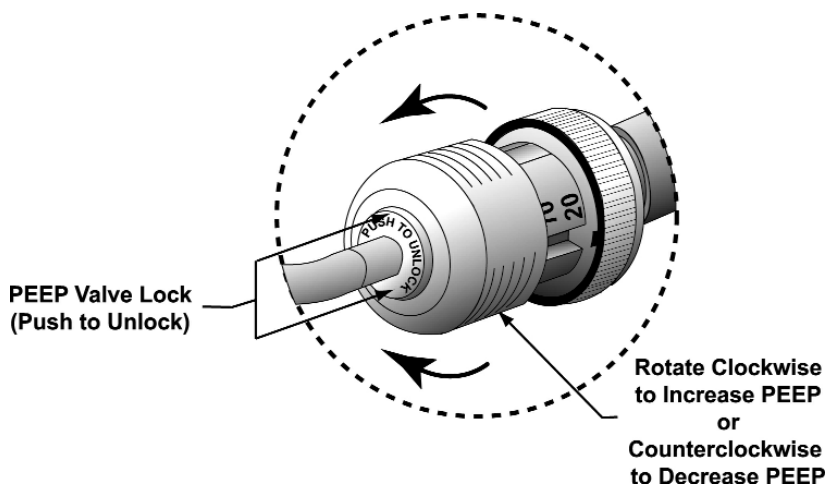

Figure 1: PEEP Valve Lock
2. Press and hold the PEEP valve lock (Figure 1), then rotate the PEEP valve clockwise to increase the PEEP or counter-clockwise to decrease the PEEP.